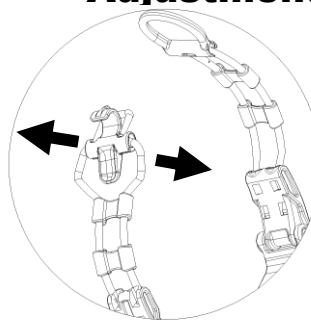

Fig. 22
Refer to Fig. 22 and 23:
1. Pull the elastic strap out of the strap buckle as shown in Fig. 22.